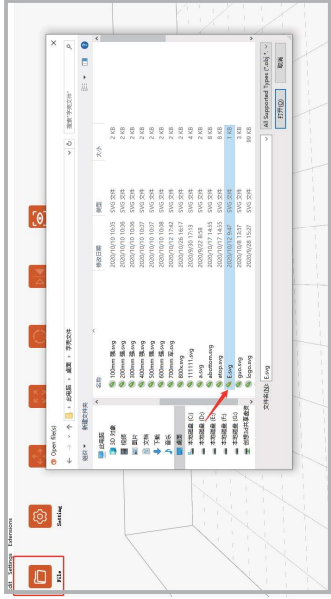

Figure3-01
1. Open the slice software SoLeYin, click [File], and import the file in SVG format (as shown in Figure 3-01).